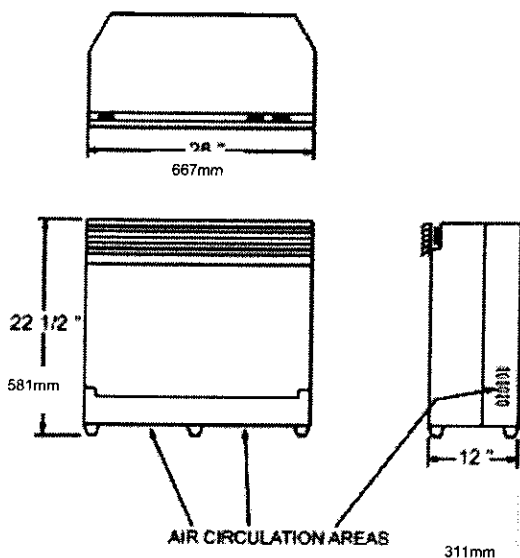

FIGURE 1
(figure 1)
Clearance for air circulation beneath the fireplace insert is provided by three rubber feet (figure 1).
4. Press    button located on the remote control transmitter (FIGURE 1). This will synchronize the remote control transmitter and receiver.